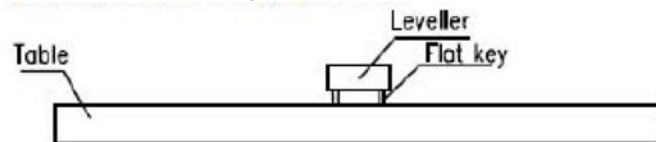

Figure 1.5
2. Check the vertical level. (Figure 1.5)